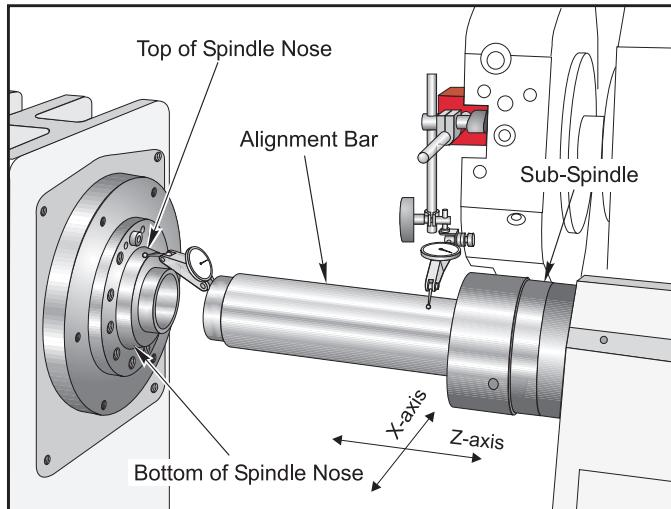

Figure 3.3-1
3. Mount a magnetic base and a .0001" indicator on the turret face. Rest the indicator tip on the top surface nearest the sub-spindle face and manually rotate the sub-spindle. Tap on the alignment bar flange and indicate it to zero runout. Jog the indicator in the Z-axis direction to the end of the alignment bar and set the indicator to read zero. Rotate the sub spindle to check runout. runout should not exceed .0002. If the runout exceeds .0002, then use different tension on the test bar mount bolts to adjust. (See figure 3.3-1.)
6. With the indicator on the nose of the test bar, place the indicator tip on the top of the beveled lip of the main spindle and set it to zero. (See figure 3.3-1)
10. Rest the indicator tip that is riding on the top of the test bar to run along the side of the test bar. Use the "Z" axis to jog the indicator tip over eight inches of the test bar to check the sub-spindle parallelism, max tolerance is .0003" (see figure 3.3-1).
12. With the indicator on the nose of the test bar place the indicator tip on the side (90° position) of the beveled lip of the main spindle and zero (see figure 3.3-1).